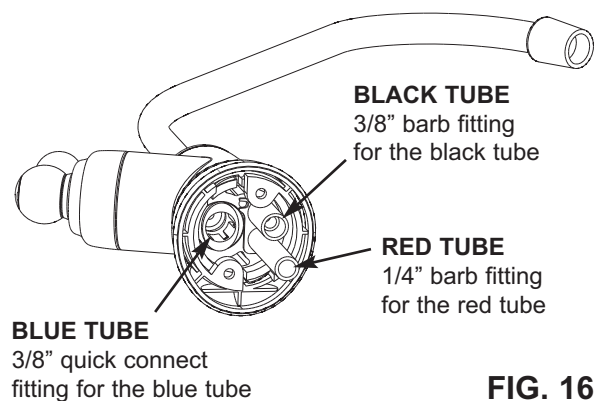

FIG. 16
10. Insert all the way onto the 1/4" faucet barb fitting on faucet. See Fig. 16.